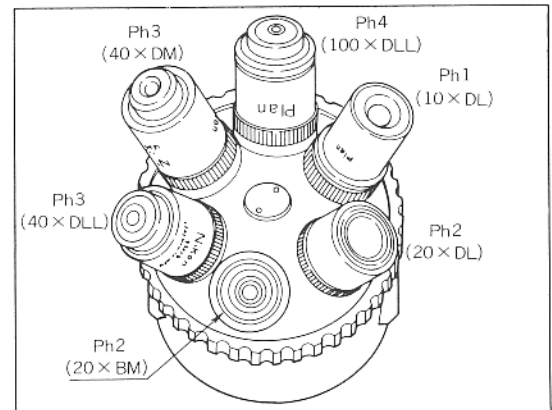

Fig. 27
2. The objectives are to be arranged on the nosepiece in such an order that, when viewed from above, the magnifying power increases as the nosepiece is revolved clockwise, as shown in Fig. 27.